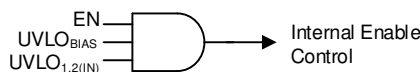

Figure 8-3. Simplified Turn-On Control
Controlling when a single power supply turns on can be difficult in a power distribution network (PDN) because of the high power levels inherent in a PDN, and the variations between the supplies. Figure 8-3 and Table 8-2 show how the LDO turn-on and turn-off times are set by the enable circuit (EN) and undervoltage lockout circuits ( $UVLO_{1,2(IN)}$  and  $UVLO_{BIAS}$ ).